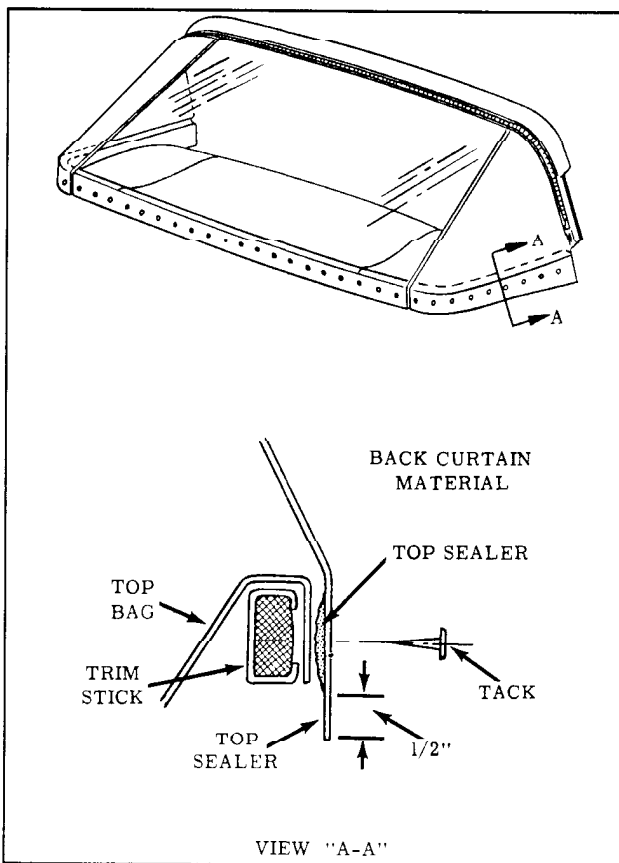
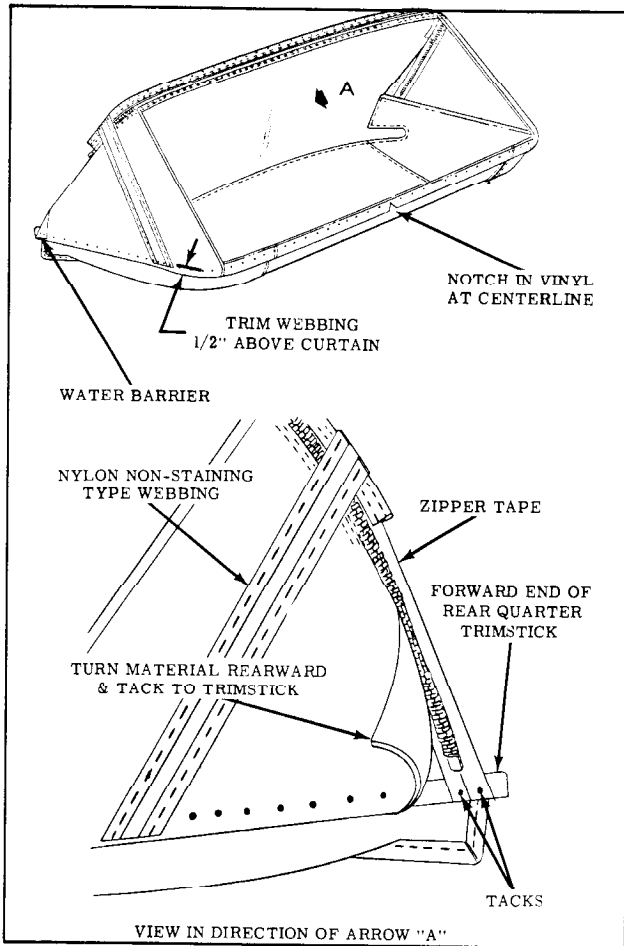

Fig. 17-30 Back Curtain Sealing
Fig. 17-31 Back Curtain Installation
carefully to avoid possible damage due to scratches, abrasions, etc.) Apply bead of convertible top sealer (Part No. 1098737) along lower edge of back curtain material in area which will be tacked to rear and rear quarter trim stick. (View "A-A", Fig. 17-30)
- Apply bead of convertible top sealer along lower selvage edge of back curtain material. (Fig. 17-30)
NOTE: Notch in back curtain vinyl at lower edge indicates centerline of back curtain assembly. (Fig. 17-31) In addition, back curtain lower edge should extend $1/2''$ below lower edge of trim sticks as shown in View "A-A", Fig. 17-30.
- Tack curtain to rear and rear quarter trim sticks. On right side, tack zipper tape to forward edge of rear quarter trim stick. ("A" in direction of arrow, Fig. 17-31)
- Tack remainder of back curtain material to rear quarter trim stick, turning forward edge of material rearward to form a water barrier. (Fig. 17-31)
off at rear trim stick, 1/2" above back curtain lower edge. (Fig. 17-31)